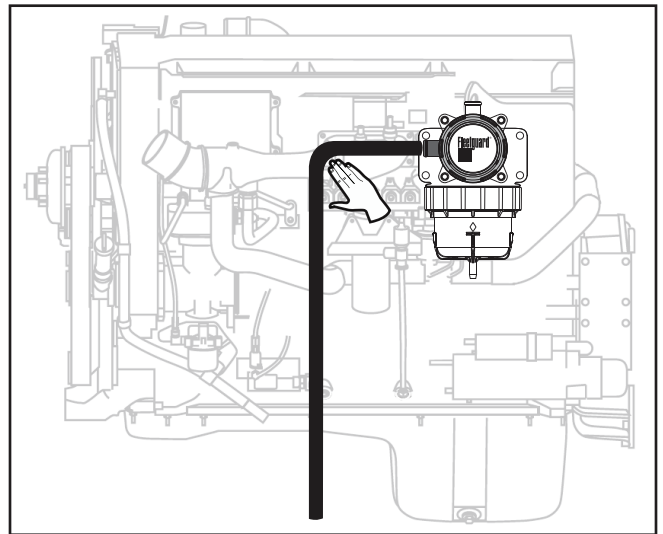

Figure 3 – Connecting to Outlet (Open)
1. Attach a 1" (25 mm) ID hose to the CVM outlet. Ensure the hose is directed downward and trim, if necessary. Secure the loose hose to stabilize. See Figure 3.